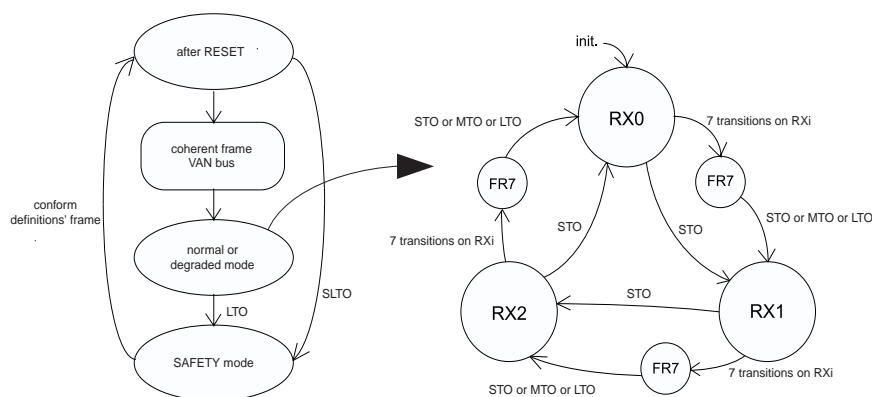

Figure 5.
4.5.1 Condition for enter in safety mode (see Figure 5)